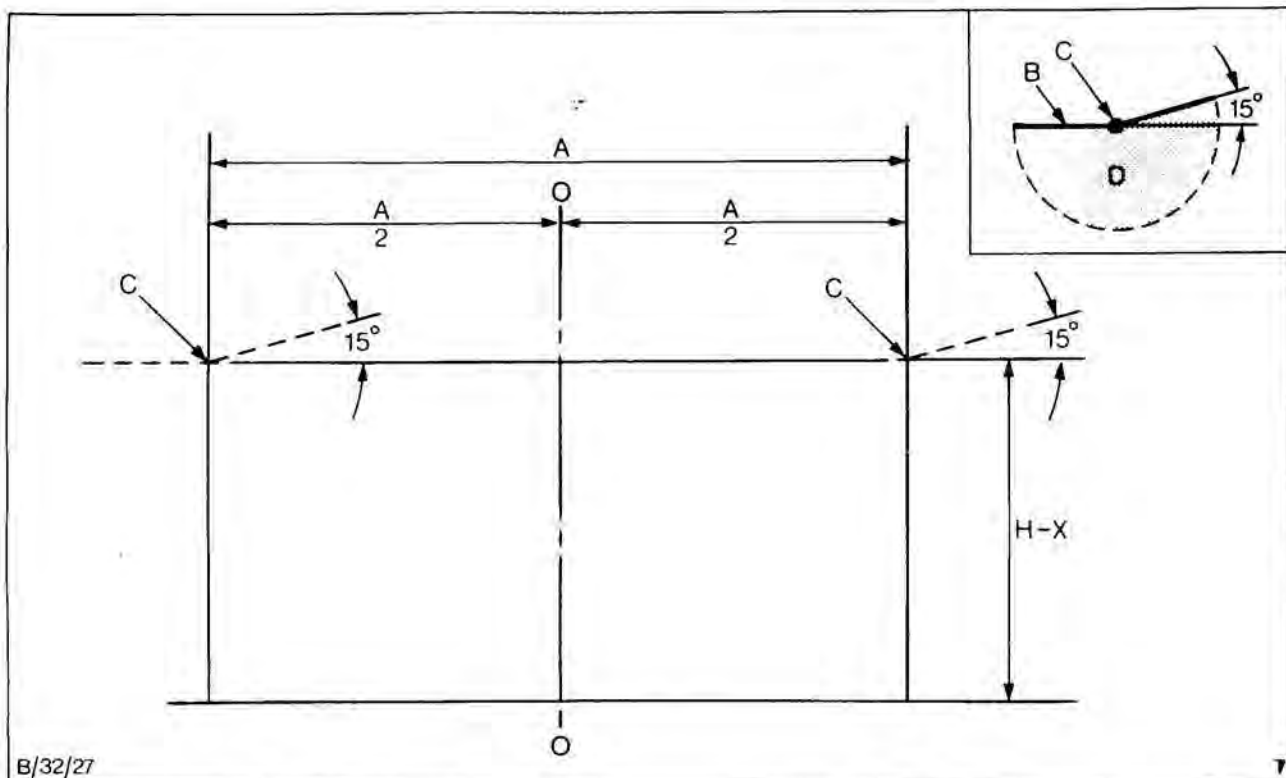

Fig. 3. Headlamp Alignment Chart (left-hand drive shown)
1. Position vehicle on level ground 10 metres (33 feet) in front of a suitable aiming board (a white board marked with vertical and horizontal lines, as shown below, Fig. 3 and placed in a suitably darkened area is recommended).
6. Raise or lower board so that horizontal line is at height 'H'-X from the ground, Fig. 3.
9. Adjust horizontal alignment of right-hand headlamp so that intersection of horizontal and angled light pattern, C, Fig. 3 coincides with vertical line on aiming board.
10. Adjust vertical alignment so that light/dark boundary of beam pattern B, Fig. 3 coincides with dotted line on aiming board.